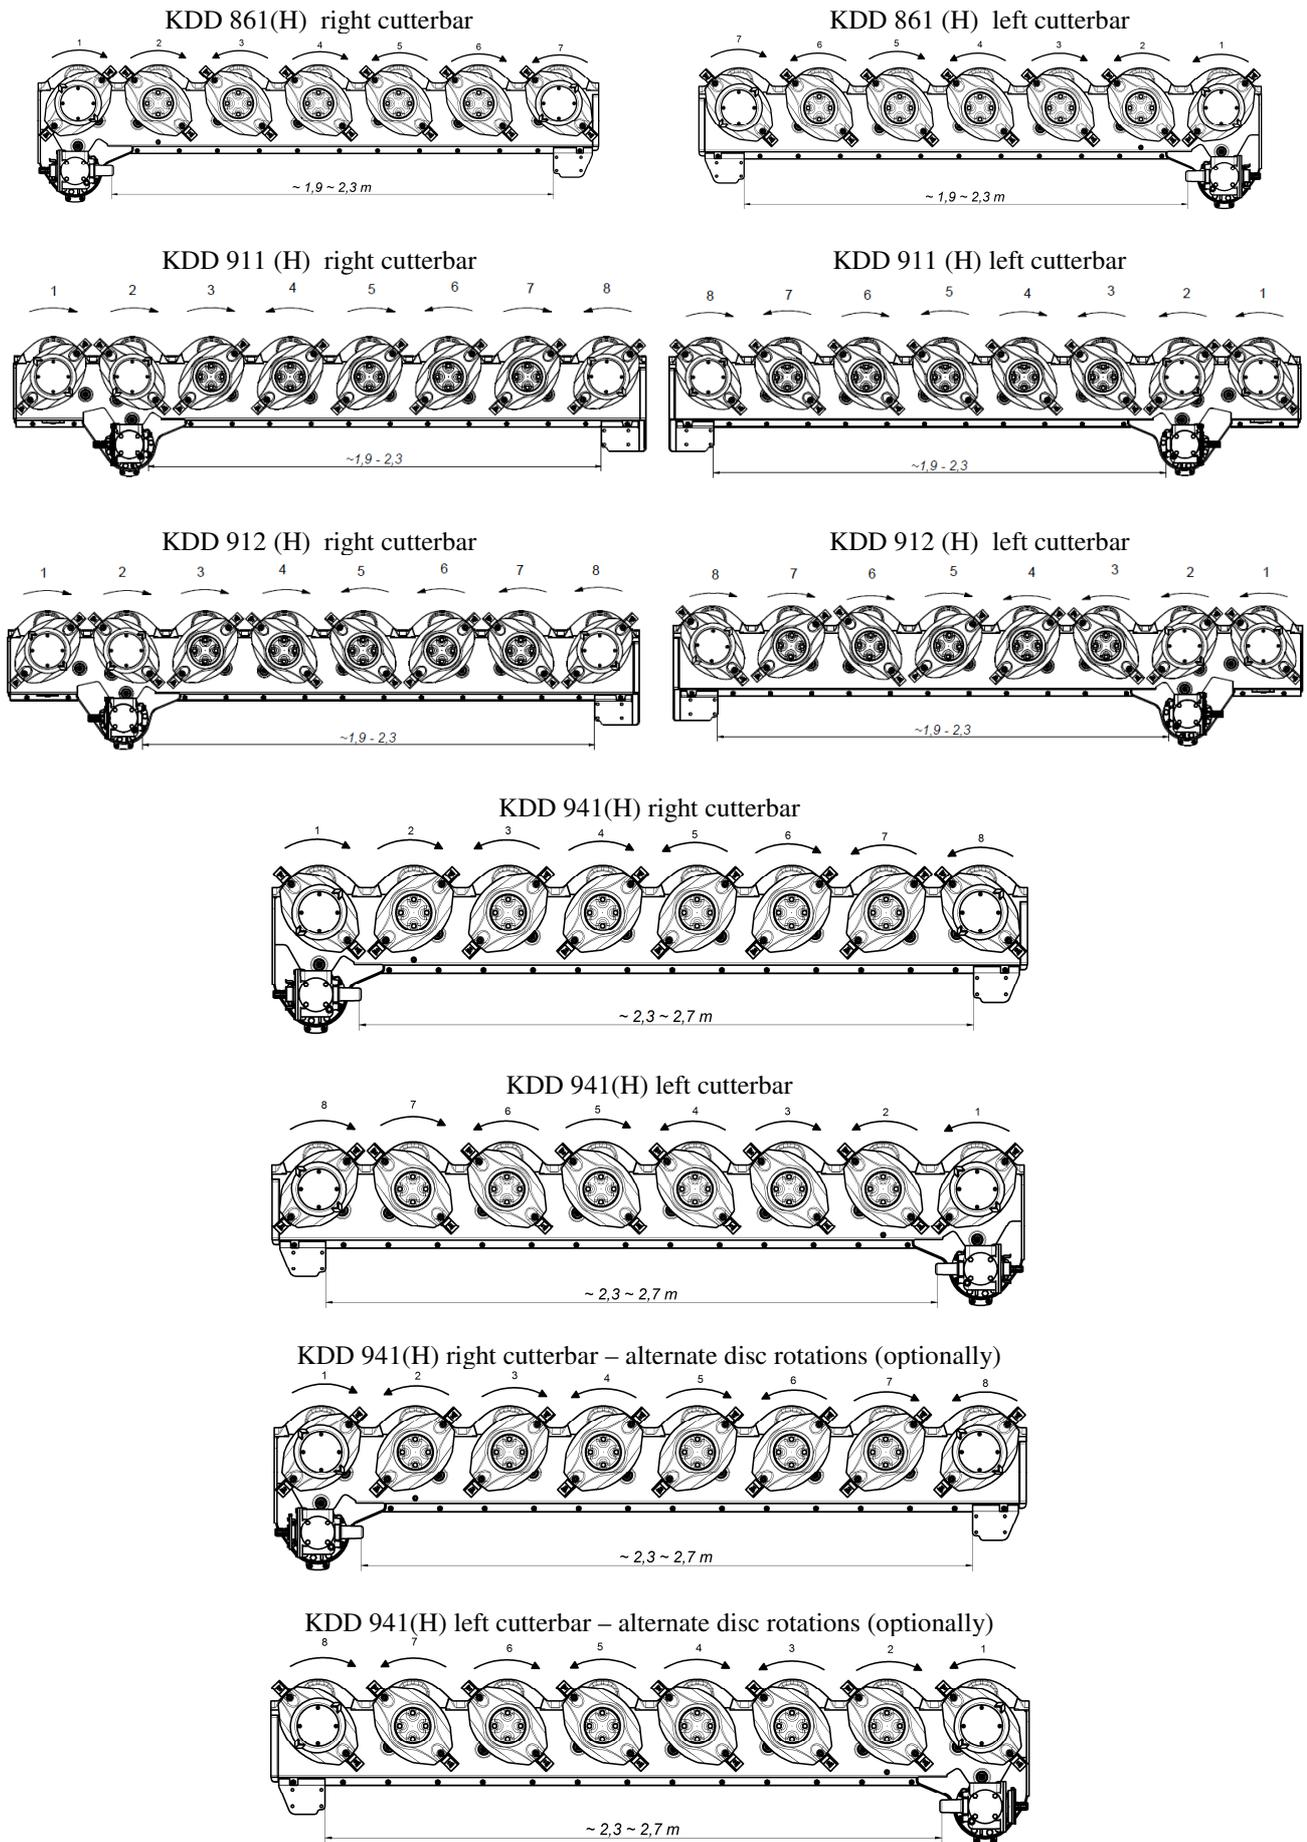

Fig. 32. Rotating direction of disks in each type of mowers
- Due to various windrow widths in the mowers (and therefore various rotation directions of the discs), before mounting the knives check rotation directions of each disc (**Fig. 32**).